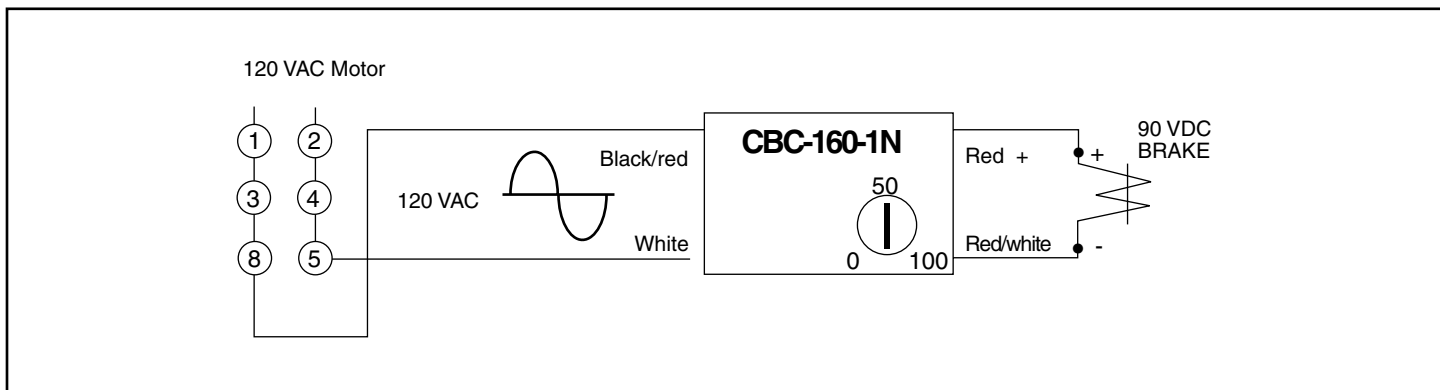

Figure 2
- If wiring to a motor for operation with an electrically released brake, refer to (Figures 2 and 3) for correct wiring for either 120/230VAC motor connections.